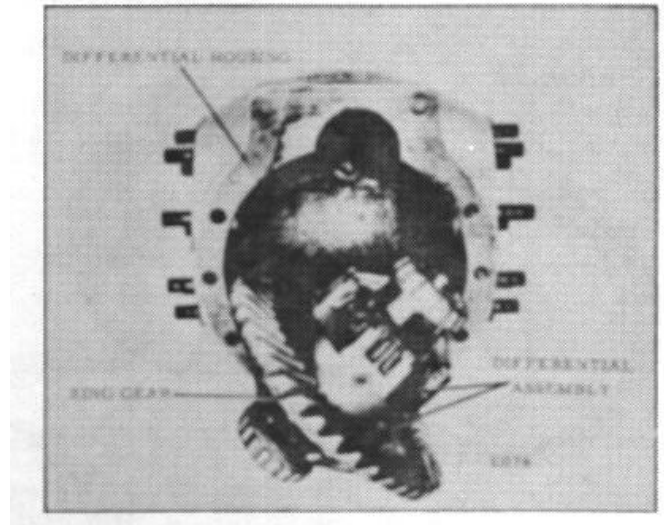

Figure 11.
8. Lift out differential and gear assembly. (Fig. 11)